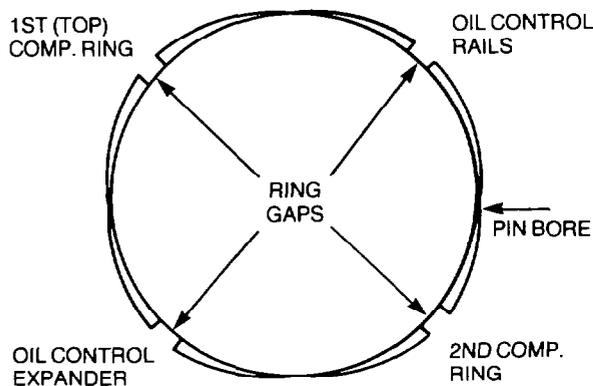

Figure 249 — Piston Ring — Installation
- c. Install the intermediate compression and the top compression ring with the word TOP toward the crown of the piston ensuring that the ring gaps are staggered 180° apart and are not located over the gudgeon pin bore (see Fig. 249).